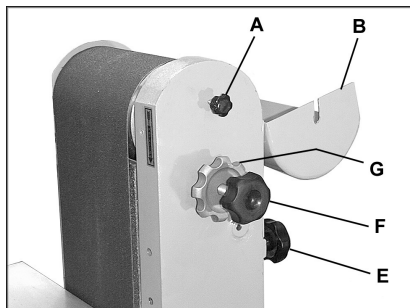

Fig 14
Loosen the knob (A, Fig 14) and swing the belt end cover (B) out of position.
Release the belt tension on the tension handle (E, Fig 14).
Release the tracking lock nut (C, Fig 14)
The blade tracking is now adjustable by turning the micro adjusting screw (F, Fig 14).